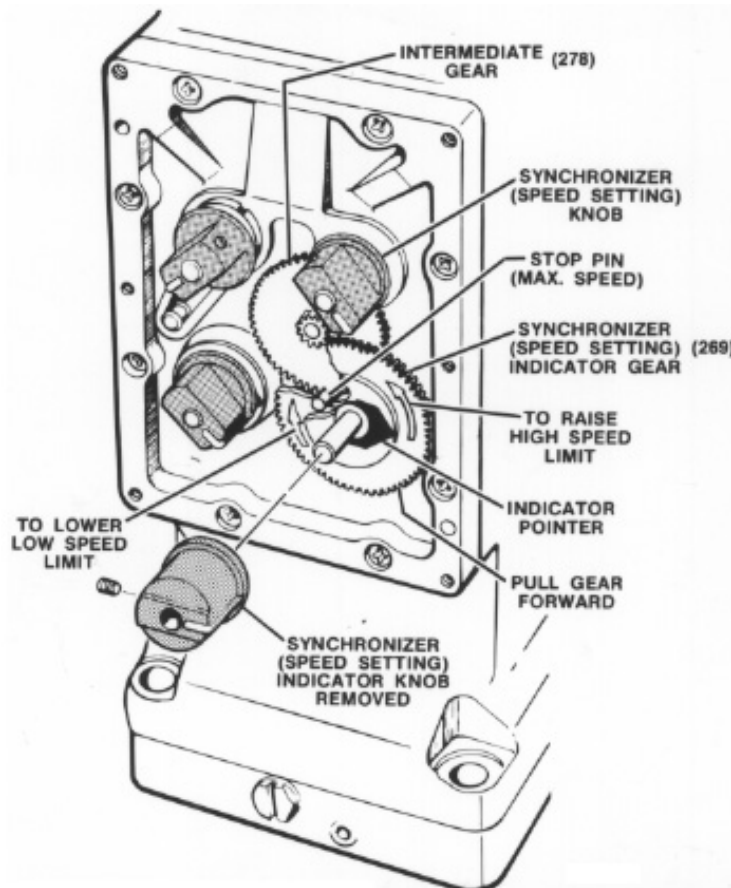

Figure 4-1. Maximum/Minimum Speed Stop Adjustment on the Governor
13. Set the maximum and/or minimum speed limit on the governor. This adjustment can also be made with the prime mover running. To make the adjustment, first remove the governor dial plate (see Figure 4-1).